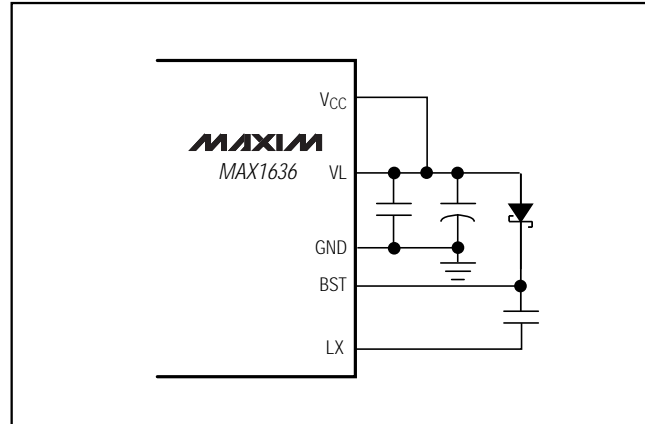

Figure 7. Capacitor Placement
- Place the IC and signal components. Keep the main switching nodes (LX nodes) away from sensitive analog components (current-sense traces and REF capacitor). Place the IC and analog components on the opposite side of the board from the power-switching node. **Important:** The IC must be no further than 10mm from the current-sense resistors. Keep the gate-drive traces (DH, DL, and BST) shorter than 20mm and route them away from CSH, CSL, and REF. Place ceramic bypass capacitors close to the IC. The bulk capacitors can be placed further away. If using VL to power VCC, minimize noise by placing a 0.1µF capacitor close to the VCC pin and placing the 4.7µF capacitor further away, but closer than the boost diode (Figure 7).